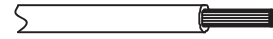

Fig. 26 —Stripping The Wire
2. Strip a suitable length of the insulation layer as shown in Fig. 26 below.